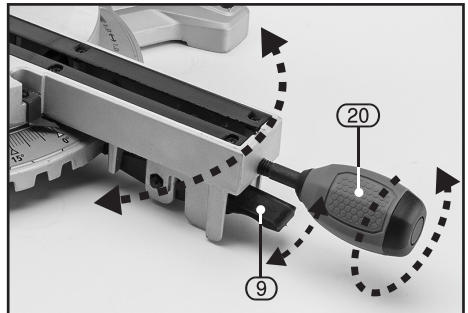

FIG.9
8.11 MITRE LOCKING ASSEMBLY – FIG.9